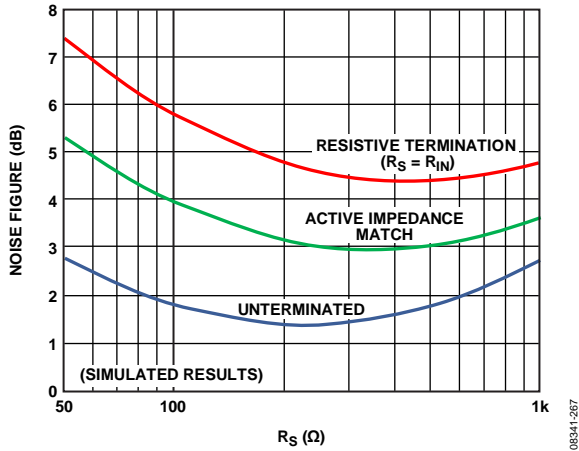

Figure 67. Noise Figure vs.  $R_S$  for Resistive, Active Match, and Terminated Inputs
The primary purpose of input impedance matching is to optimize the input signal power transfer. With resistive termination, the input noise increases due to the thermal noise of the terminating resistor and the increased contribution of the input voltage noise generator of the LNA. With active impedance matching, however, the contributions of both are smaller than they are for resistive termination by a factor of  $1/(1 + \frac{1}{2} \text{ LNA gain})$ . The noise figure (NF) for the three terminating schemes is shown in Figure 67.